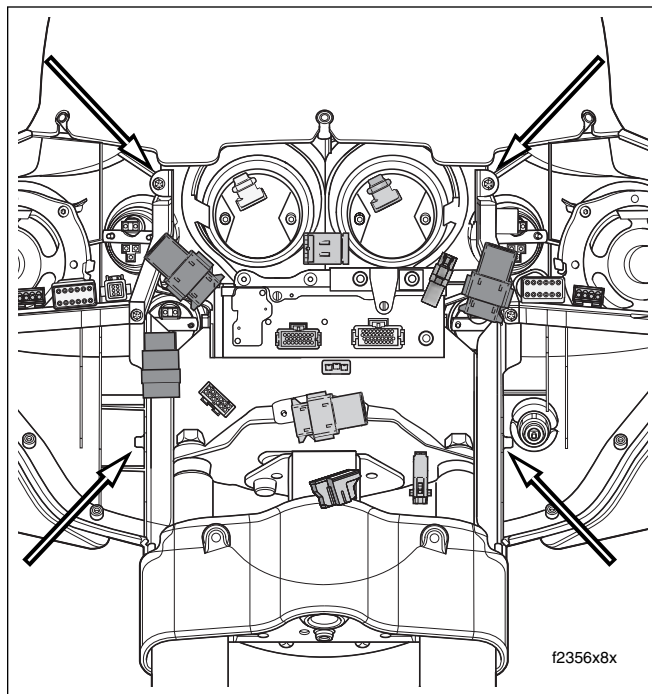

Figure 2-168. Remove Fairing Bracket Screws
24. Remove four socket head screws to free inner fairing from fairing bracket. See Figure 2-168.
6. Install four socket head screws to attach inner fairing to fairing brackets. See Figure 2-168.